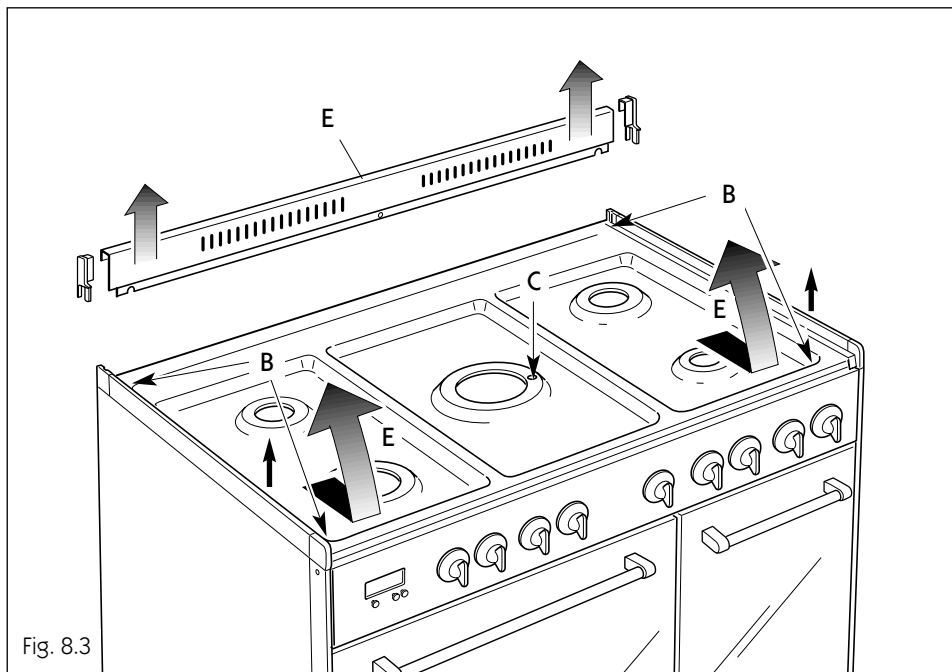

Fig. 8.3
- Unscrew the screws “B” and remove the sockets and the side trims (Fig. 8.3).
- Pull forwards the hobtop to release it, then lift following arrow “E” (Fig. 8.3)